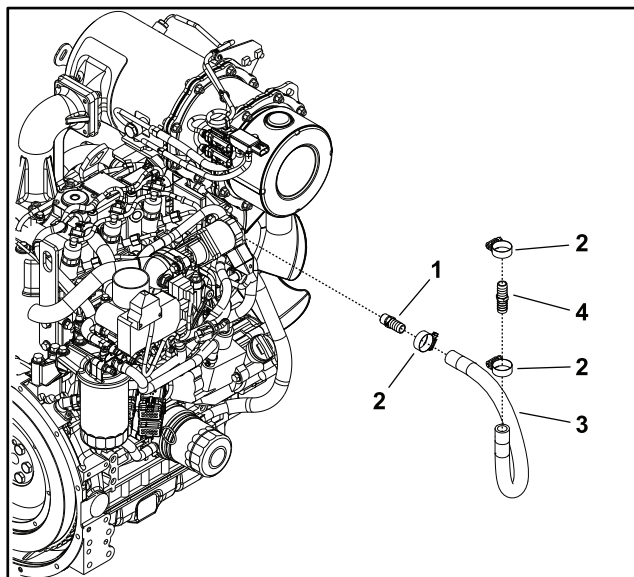

Figure 17
- B. Disconnect the cab heater hose from the engine thermostat housing (Figure 17).
- B. Connect the cab heater hose to the engine thermostat housing (Figure 17).